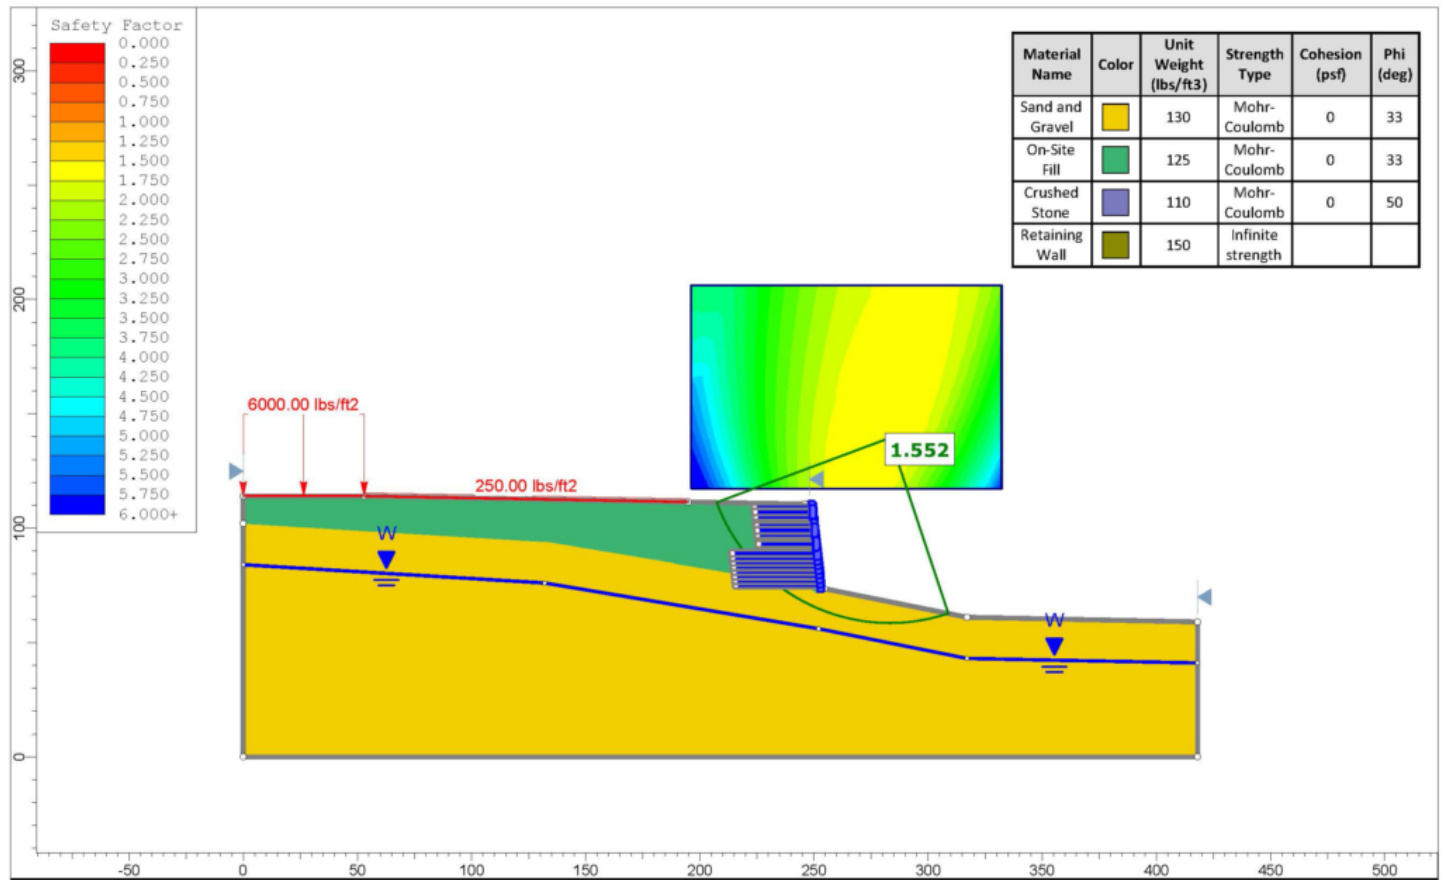

Figure 1: Example of global stability analysis for a retaining wall design
- **Global stability analysis:** The geotechnical engineer should consider global stability analysis for retaining walls (See figure 1 for an example). Software like Slide by Rocscience is a valuable tool for analyzing the global stability of retaining walls under various conditions (i.e., surcharge loading, seismic loading, flood conditions, etc.).